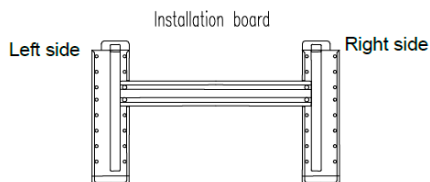

Fig. 2
- Drill holes as Fig. 2 shows. The hole, 80mm in diameter, should slightly slide down outwards.